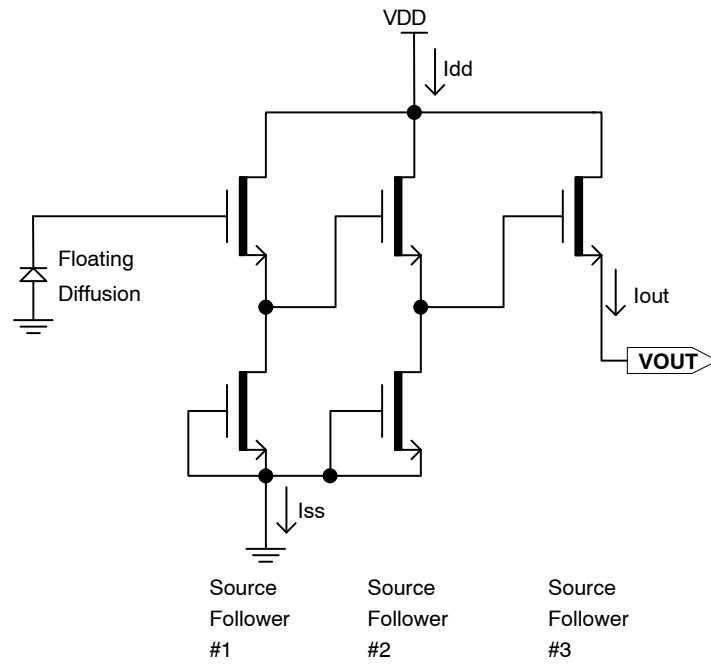

Figure 18. Output Amplifier
- Each output. See Figure 18: Output Amplifier. Note that the current bias affects the amplifier bandwidth.
- One output, unloaded. The maximum DC current is for one output unloaded and is shown as I_{ss} in Figure 18. This is the maximum current that the first two stages of one output amplifier will draw. This value is with V_{out} disconnected.